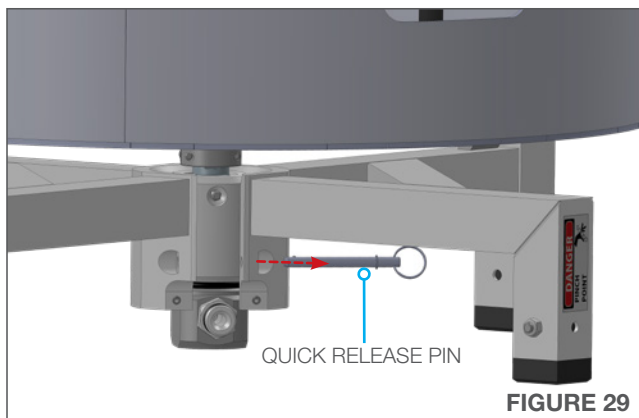

FIGURE 29
2. Pull the Quick Release Pin out from under the drum and lift the assembly off the Frame. **(Figures 29 & 30)**